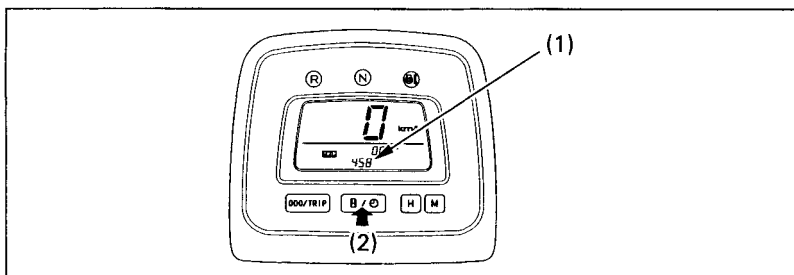

Fig. 2-20 (1) Digital clock (2) Hourmeter/digital clock select button
When selected, the digital clock (1) (Fig. 2-20) shows the time while the ignition is I (ON). To change the display from hourmeter to digital clock, press and release the hourmeter/digital clock select button (2).